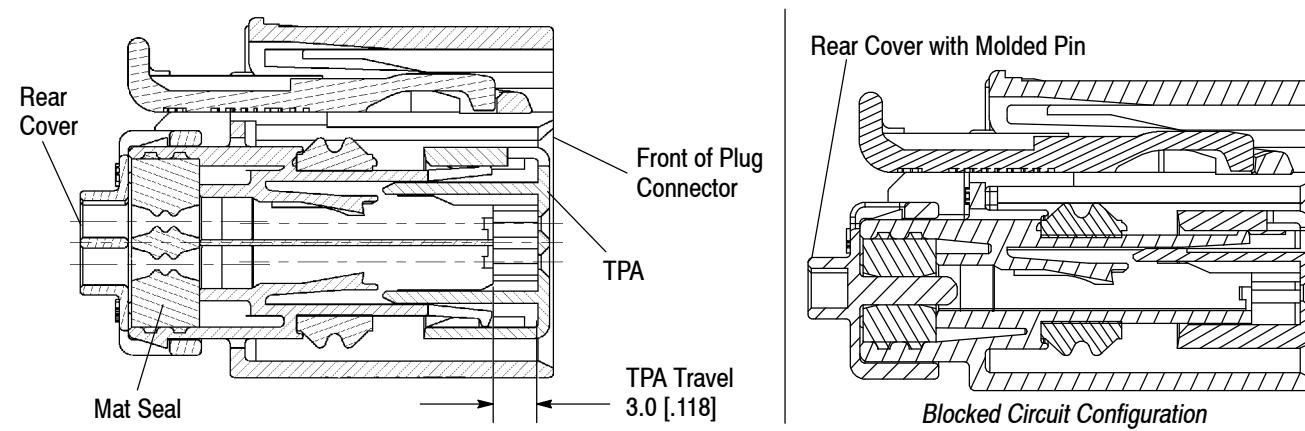

Figure 5
*The rear of the connector must be completely sealed. Unused circuits are blocked by molding shut the unused terminal opening on the rear cover. A pin molded on the blocked circuit passes through the mat seal to prevent any contamination from entering the seal. See Figure 5. Current blocked circuit configurations can be found on the TE Customer Drawing. New configurations can be obtained by contacting the PRODUCT INFORMATION number at the bottom of page 1.*
1. Verify that the TPA is in the pre-staged position (un-locked). Prior to installing the contacts, the TPA and the front of the connector should be almost flush with each other. See Figure 5.